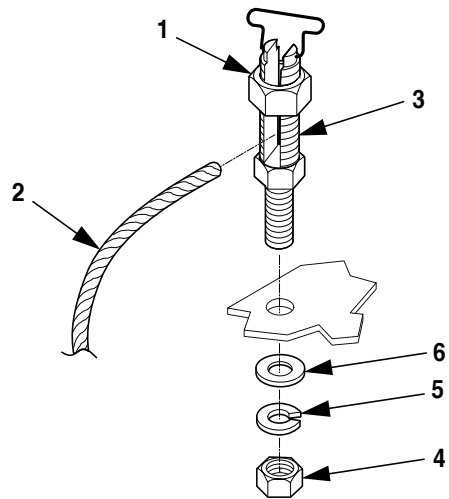

Figure 4-29. PU-797A and AN/MJQ-35A Ground Stud Replacement.
1. Loosen nut (1, figure 4-29) and remove ground wire (2) from ground stud (3).
2. Remove nut (4), lock washer (5), flat washer (6), and ground stud (3).